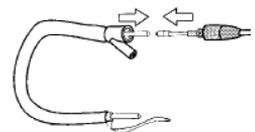

Fig. 4-6A
1. Insert the snap end of the Tension Guide cable securely into the feeder tube at the “Y” connect end of the loop cover. (See Figure 4-6A)